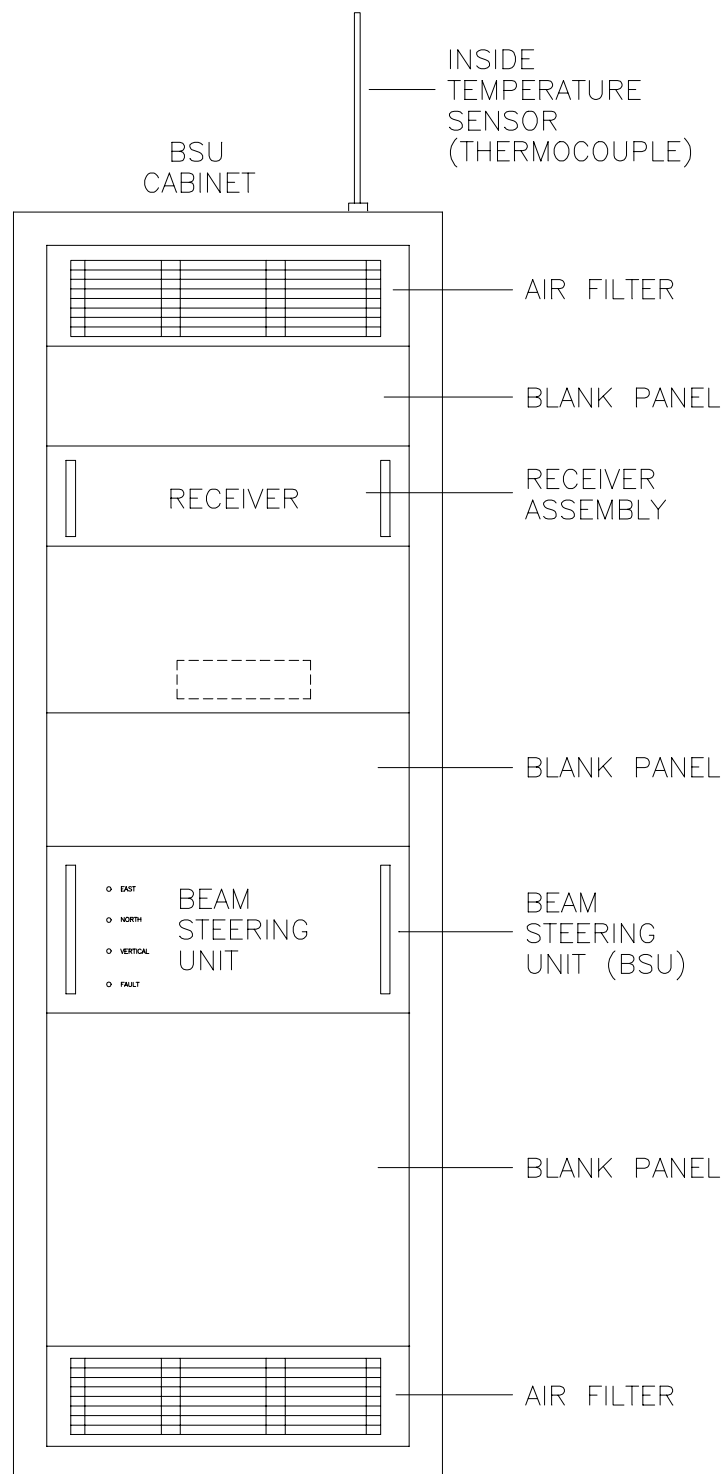
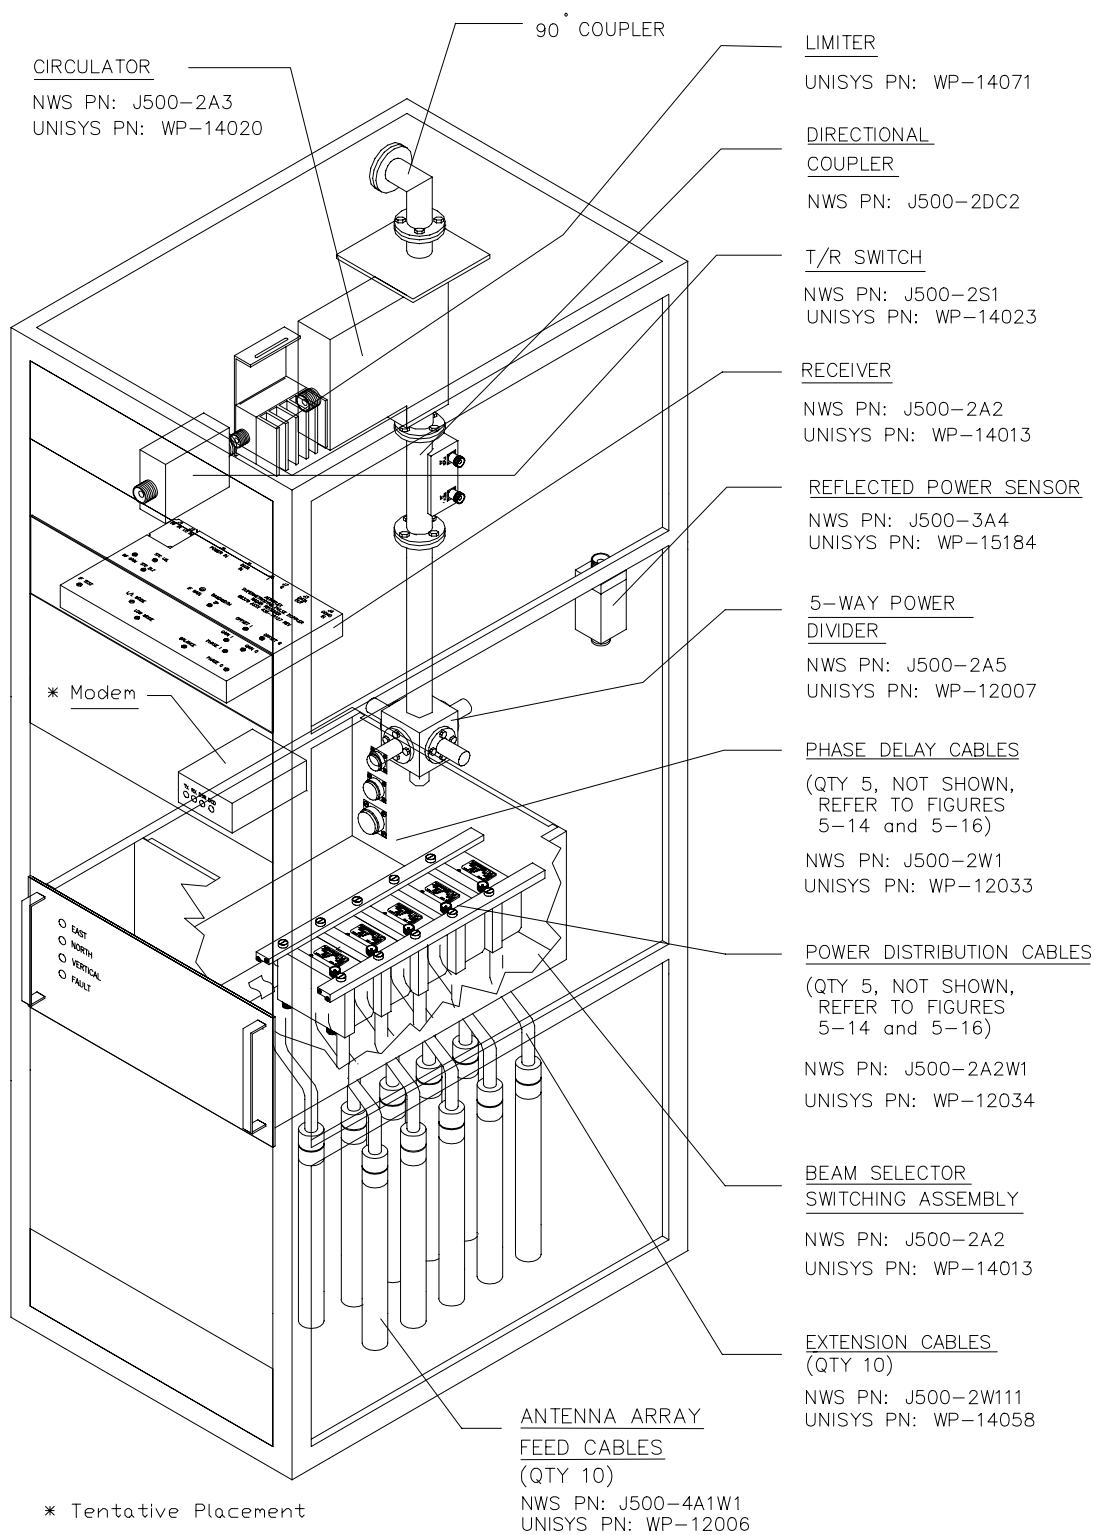

Figure 5-1 Beam Steering Unit (BSU) Cabinet Front Panel
Figure 5-2 Beam Steering Unit (BSU) Cabinet Internal Component Layout
The Beam Steering Unit (BSU) Cabinet is located near the antenna field access door as illustrated in Figure 2-4 and Figure 2-6. The front view of the BSU Cabinet is shown in Figure 5-1, and the internal component layout of the cabinet in Figure 5-2.
The Type 2 Receiver Assembly is located above the BSU Assembly in the Beam Steering Unit Cabinet (see Figure 5-2). The Type 2 Receiver Assembly is a complete redesign of the original Type 1 404 MHz Receiver and is further modified to operate at 449 MHz. Design enhancements include; more rugged mechanical structure, better noise stability, and a modular input amplifier. The Type 2 Receiver is a superheterodyne design that performs an analog-to-digital (A/D) conversion of the returned Doppler-shifted signal before sending it to the Signal Processor Assembly.
The Limiter is located in the BSU Cabinet above the Receiver Assembly (see Figure 5-2). The Limiter is designed to protect the T/R Switch and Receiver Assembly from being damaged by excessive reflected power levels induced by antenna or BSU failures.
2. Remove the side panel from the BSU Cabinet (see Figure 5-2).